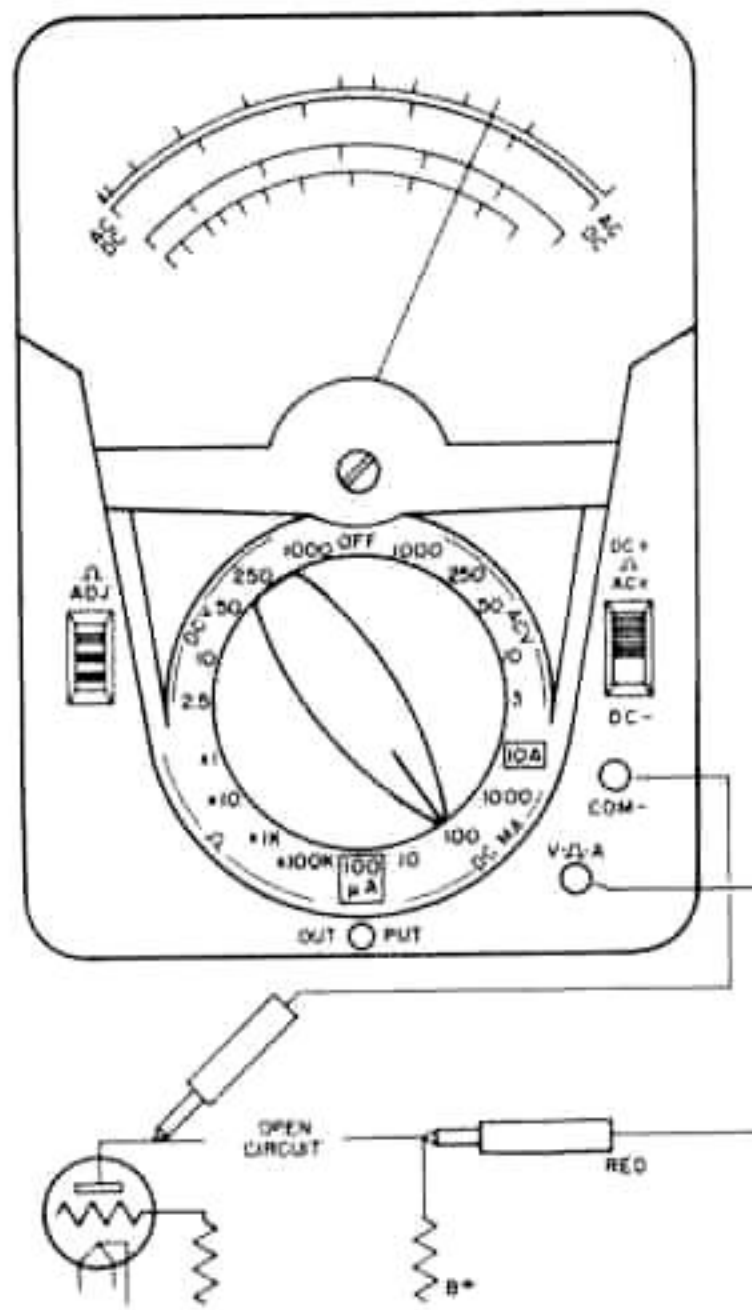

Fig. 3. Measuring DC Current
3. Connect the test probes in series with the circuit (use alligator clips) as shown in Fig. 3.